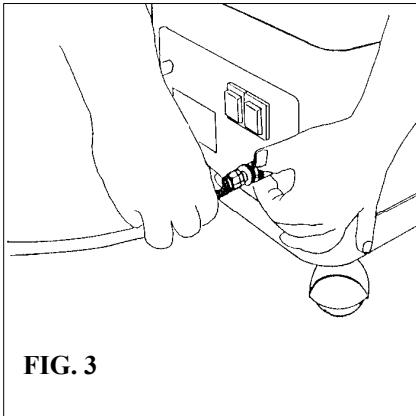
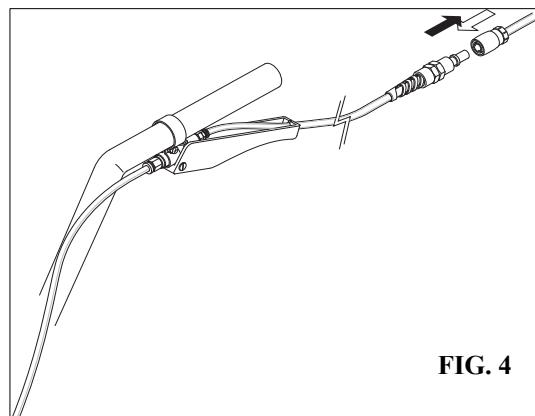
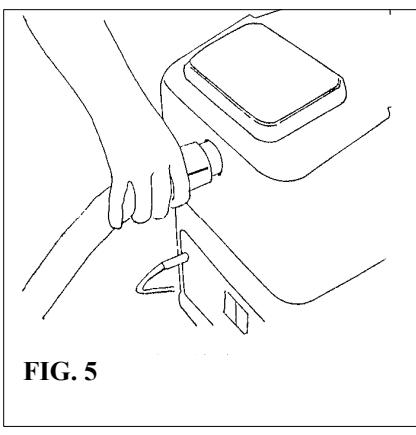

FIG. 3
FIG. 4
FIG. 5
4. Connect the machine to the wand with the equipped hoses. The quick-disconnect couplings at the end of the solution hose (the little one) must be inserted in the correspondent couplings which are one on the body of the machine (Fig.3) and the other on the water valve, on the wand or accessory handle. (Fig. 4) Connect the vacuum hose to the machine and to the accessory handle. (Fig. 5)